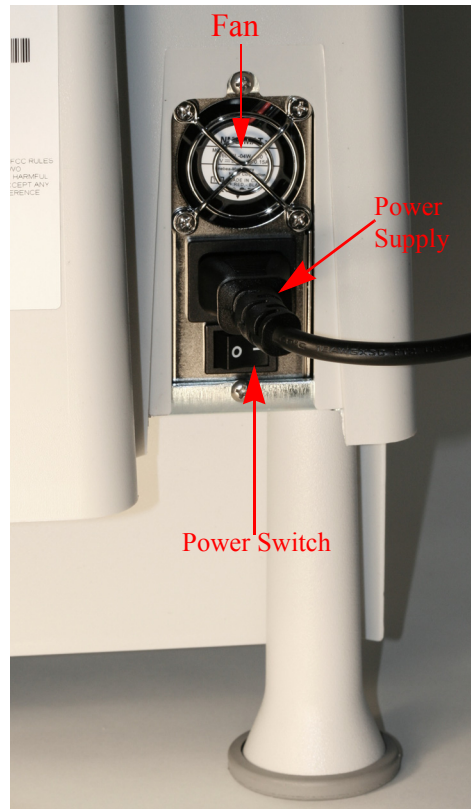

Figure 1.7 Power Supply
1. Insert the power cable into the receptacle located in between the power switch and fan on the back of the Eyecon. Refer to Figure 1.7.
1. Make sure the power switch is in the ON (I) position. Refer to Figure 1.7 for location.
Do not use the power switch to turn off the Eyecon. Refer to Figure 1.7 for power switch location. The Eyecon is designed to be turned off through the touch screen menus. Refer to page 23 for details on shutting down the Eyecon.